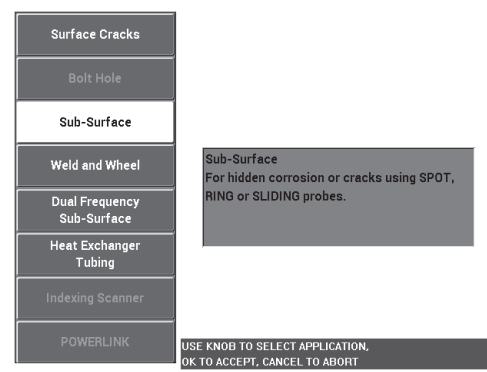

Figure 5-23 The Sub-Surface application
2. Press the ADV SETUP menu key (→ ) once, and then select **APPL SELECT** (A key) to open the application selection menu. Select **Sub-Surface** with the knob, then press ✓ to accept (see Figure 5-23 on page 143).